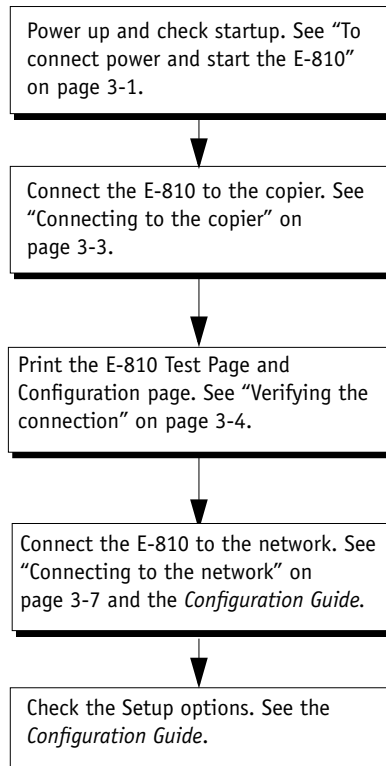

FIGURE 4-8 E-810 connection verification steps
7. Before you leave the customer site, verify E-810 operation as outlined in Figure 4-8.
3. Reassemble the E-810 (see page 4-11) and verify its functionality. (See the connection verification steps described in Figure 4-8 on page 4-12.)
4. Reassemble the E-810 (see page 4-11) and verify its functionality. (See the connection verification steps described in Figure 4-8 on page 4-12.)